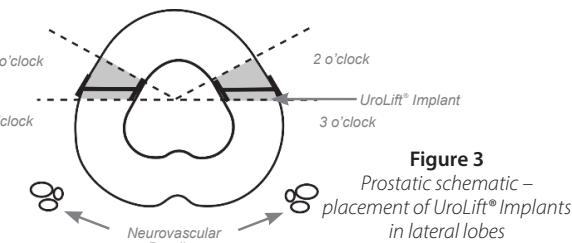

Figure 3
2.2.2 To avoid external prostatic structures (e.g. neurovascular bundles), position the Delivery Device tip in the anterior aspect of the prostate in either the 2-3 or 9-10 o'clock position (Figure 3). Orient the tip to ensure the needle deploys laterally (needle deploys in line with the Delivery Device handle).